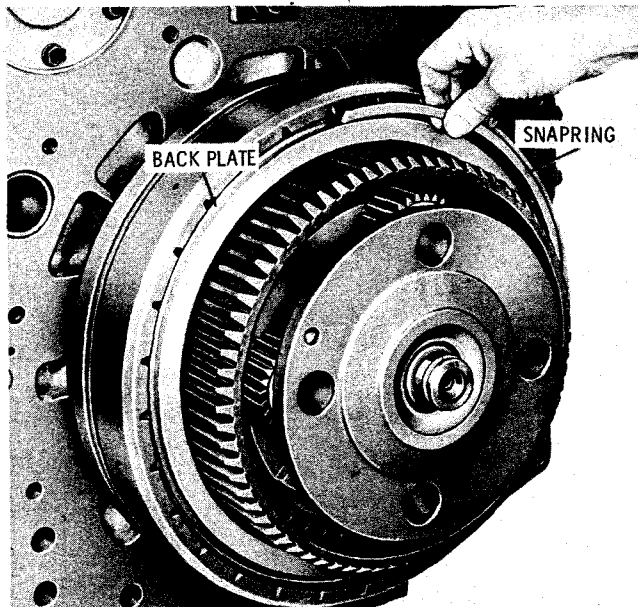

Fig. 7-70. Installing low-splitter clutch back plate snapping (CT, CLT, VCLT) S1714
(9) Install the low-splitter clutch back plate into the low-splitter drum and secure it with an internal snapping (fig. 7-70).